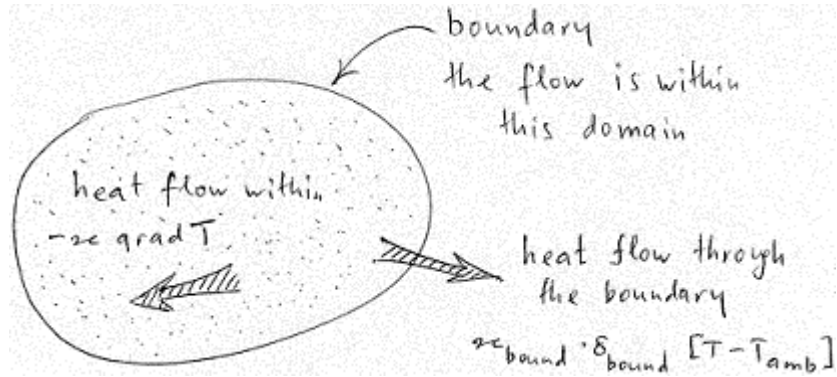

Fig.1. Heat transfer inside the flow and through the boundary
Note that (7) assumes that the medium is insulated from the ambient and no heat transfer occurs across the boundary. Otherwise, near the boundary of the domain where the medium is contacting ambient environment, the heat flow will be the combination of the flow within the medium and flow through the boundary (see Fig. 1)